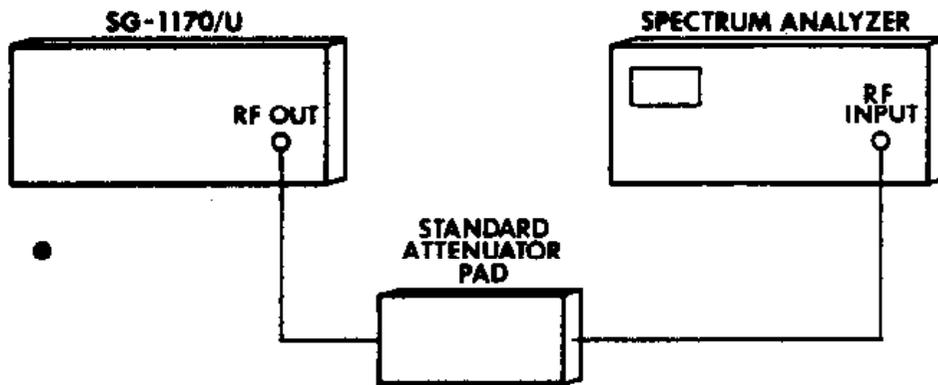

Figure 4-1. Set-up for Step Attenuator Tests
4. Disconnect the power sensor from the front-panel RF OUT connector. Connect a standard 10 dB attenuator pad to the RF OUT connector. Connect the output of the attenuator pad to the spectrum analyzer as shown in Figure 4-1.
NOTE: To test the OUTPUT Step Attenuator below -20 dBm, an RF amplifier (> 20 dB gain) is required. Insert the amplifier between the standard attenuator pad and the spectrum analyzer (Figure 4-1). The allowable error for the -90 dBm setting (step 11) is ±1.5 dB. The OUTPUT Step Attenuator can be tested down to the -130 dBm position if a 40 dB R F amplifier is used and if precautions are taken to properly shield the RF output from the instrument proper.